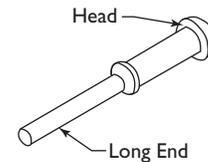

Figure 12 Pull Seal
2. Obtain a rubber pull seal from the hardware kit. An extra pull seal is provided (see **Figure 12**).